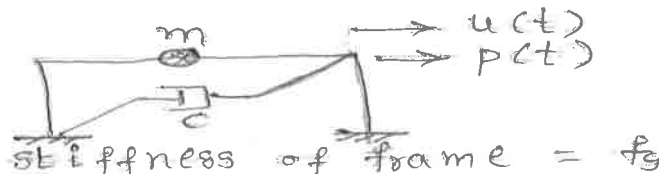

Fig 1
2. Describe how the equation of motion can be set up using Newton's second law of motion for the system shown in Fig1.